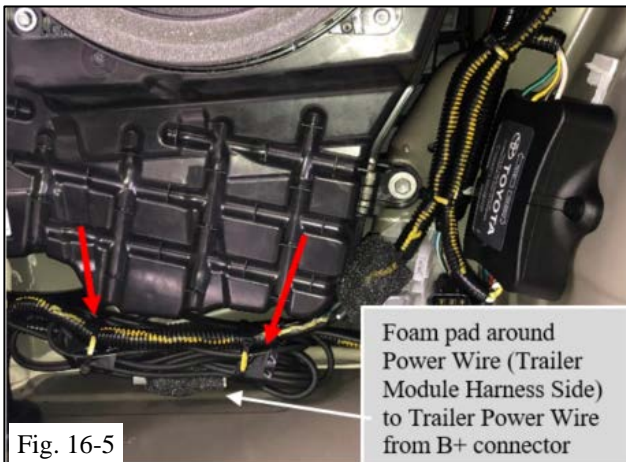

Fig. 16-5
- (j) Wrap the connector with Foam Pads (Item #9 in the Hardware Bag) (Fig. 16-5).
- (l) Make the loop about 180mm (7 inch) in length (Fig. 16-5).